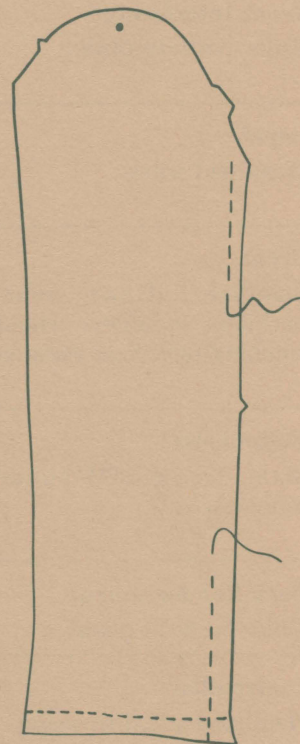

Figure 31. Stitch one sleeve seam, leaving about 10 inches (25.5 cm) of the midsection open
- Turn the entire garment right side out through the opening left in the lining sleeve seam line (Figure 31). Edge stitch the lining seam closed.